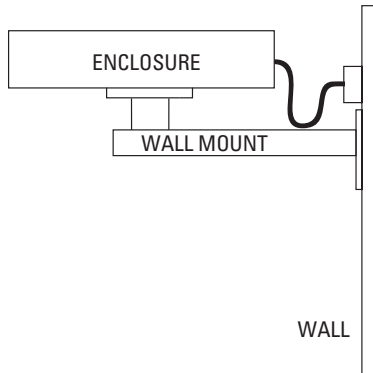
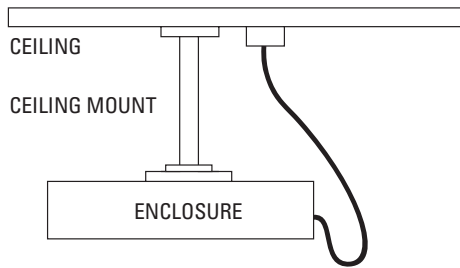

Figure 1. Typical Fixed Wall Mounting
Figure 2. Typical Fixed Ceiling Mounting
**WARNING:** If you are installing the enclosure outdoors, avoid mounting it at a downward angle to prevent water from entering the enclosure. Always use a service loop, as shown in Figure 1 and Figures 2, 3, and 4 on page 7 to further prevent water leakage.